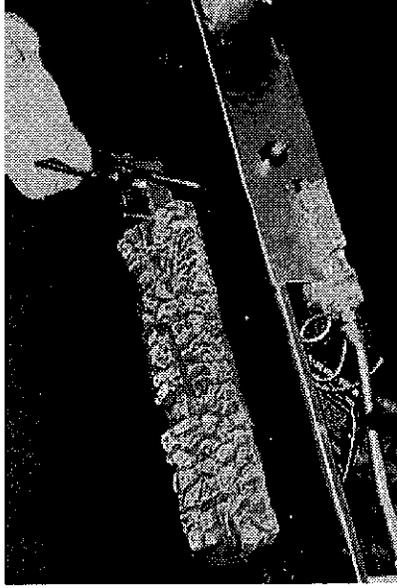

Figure 3.11 Loosen Valve Assembly
- Remove the four screws holding the valve assembly in place. See Figure 3.11.